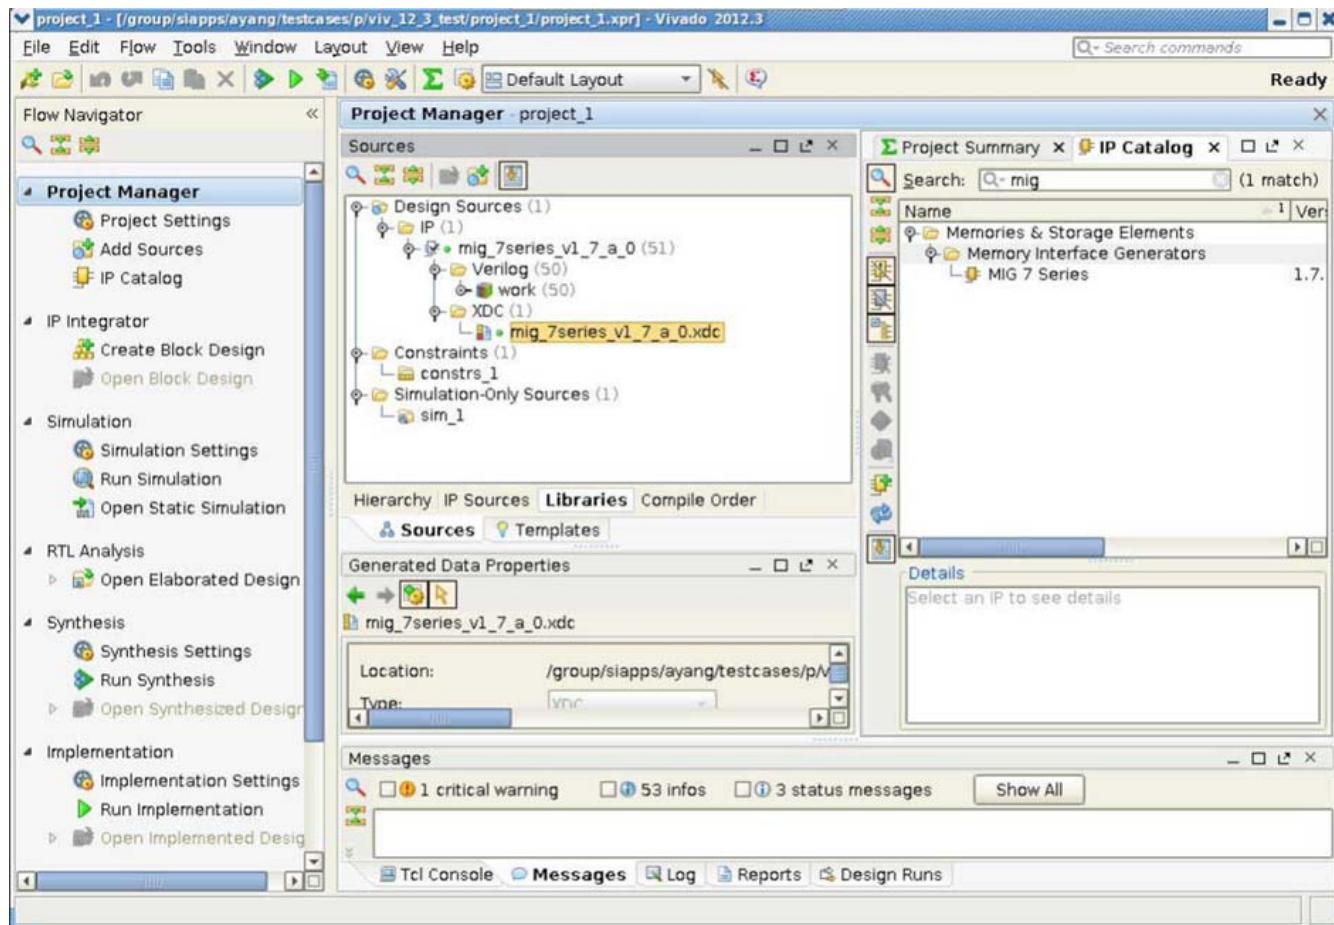

Figure 6-18: Vivado Project – RTL and Constraints Files
18. All user-design RTL files and constraints files (XDC files) can be viewed in the **Sources > Libraries** tab (Figure 6-18).